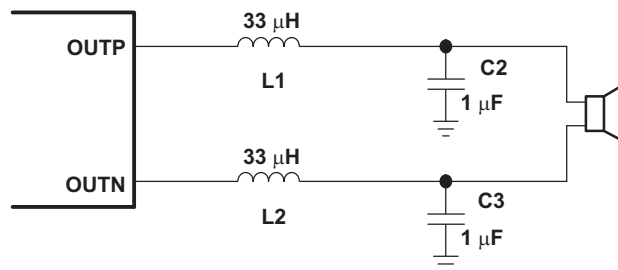
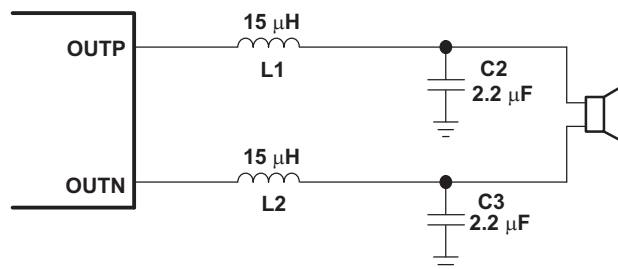

Figure 19. Typical LC Output Filter, Cutoff Frequency of 27 kHz, Speaker Impedance = 8 Ω
Figure 20. Typical LC Output Filter, Cutoff Frequency of 27 kHz, Speaker Impedance = 4 Ω
- Output filter—The ferrite EMI filter (Figure 21) should be placed as close to the output terminals as possible for the best EMI performance. The LC filter (Figure 19 and Figure 20) should be placed close to the outputs. The capacitors used in both the ferrite and LC filters should be grounded to power ground.